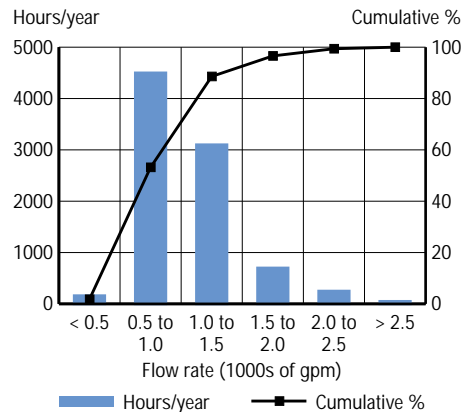

Figure 1. Annual flow rate requirements distribution.
Figure 1 is an example of a load profile for a pumping system. Although the flow requirements vary by more than a factor of five, it can readily be seen that nearly 90% of the time, the flow requirements are between 0.5 to 1.5 thousand gpm. Clearly, any energy optimization process would primarily consider this load range. The information conveyed in Fig. 1 can be arranged in any number of fashions; the key point is to clearly reveal the distribution of load conditions.
4. If initial review and discussions indicate that relatively narrow regions dominate the load profile (as in Fig. 1), concentrate more refined data collection efforts on those regions. It may be possible to get comprehensive, accurate data that represents 80-90% of the load duration with only two or three sets of test data instead of a much more massive accumulation via manual or electronic logs.